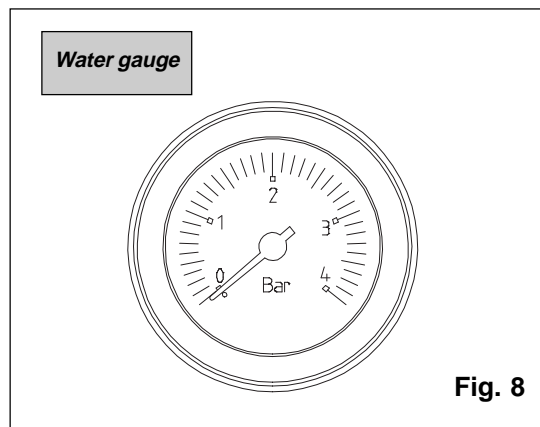

Fig. 8
- unscrew the automatic air discharge valve cap (A) by two or three turns
- open the filling cock, external to the system until water gauge pressure reaches approx. 1 bar (fig.8).